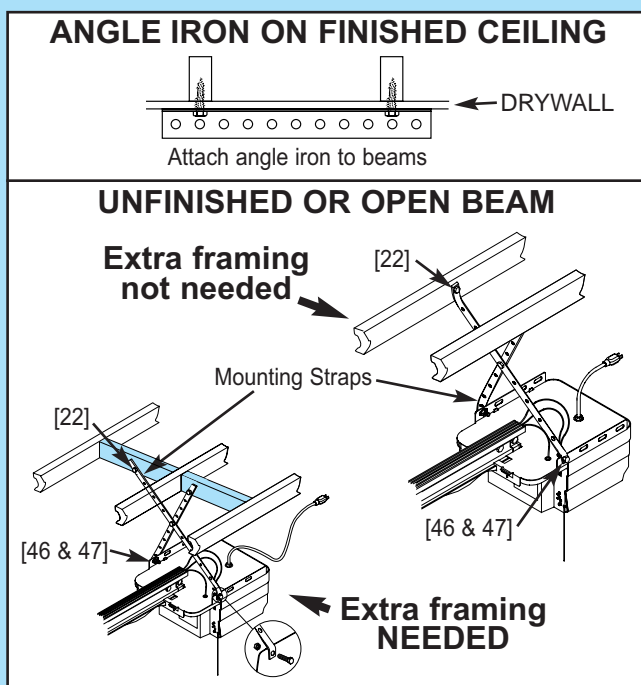

FIG. 2-10 Mounting the power head.
- Fasten curved door arm to door bracket using clevis pin (24) and cotter pin (25) (**Fig. 2-10**).
- Straight arm to carriage using clevis pin (24) and cotter pin (25) (**Fig. 2-10**).